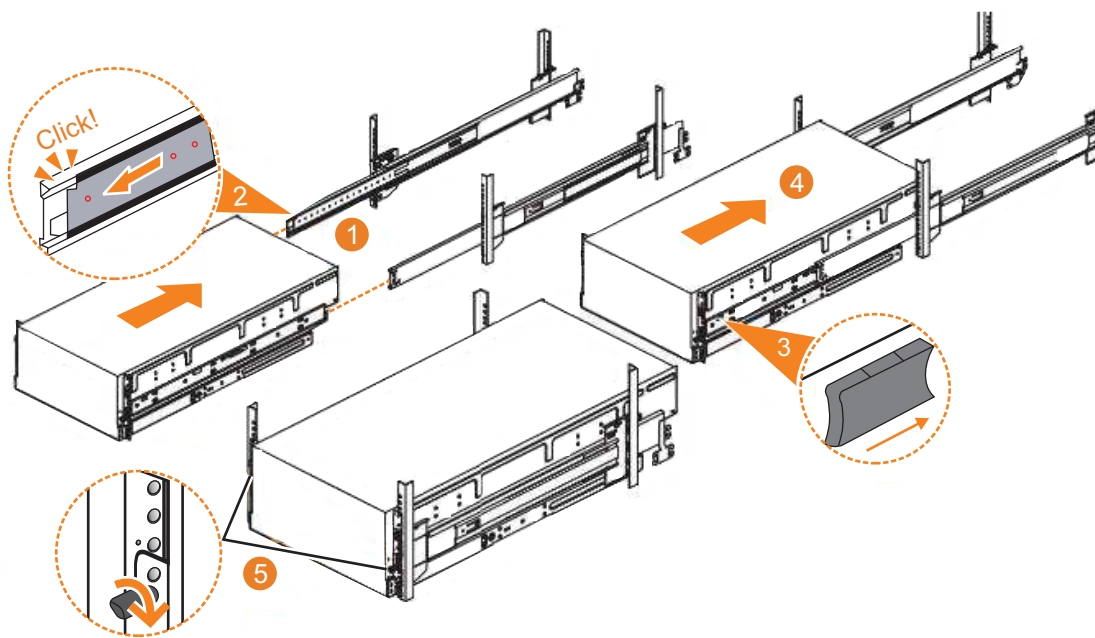

Figure 58. Replacing the 2145-92F enclosure in the rack
1. Fully extend the left and right drawer sections from the rack to lock the rails in the extended position (**1** in Figure 58 on page 68).
2. Ensure that the ball bearing retainer clicks into place inside the front of the left and right drawer sections (**2** in Figure 58).
6. Locate the left and right blue release tabs near the front of the enclosure. Press both release tabs forward to unlock the drawer mechanism (**3** in Figure 58).
7. Push the enclosure firmly into the rack (**4** in Figure 58).
8. Tighten the locking thumb screws (**5** in Figure 58) to secure the enclosure in the rack.